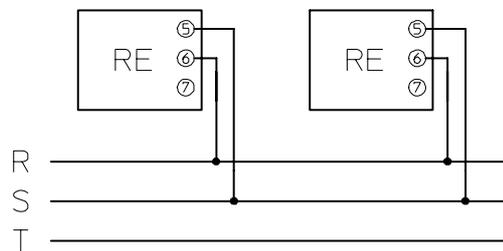

Fig 7
- (2) Power supply must be connected in phase. (see Fig.7)